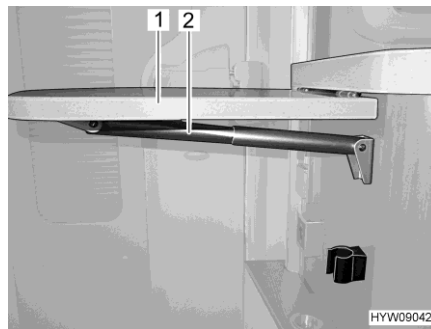

Fig. 65 Folding worktop
- Hold the folding worktop (Fig. 65,1) from below and pull gently to release it from the lock position.
- Swing up the table top until the fixture of the telescopic holder (Fig. 65,2) engages. Let go of the worktop.